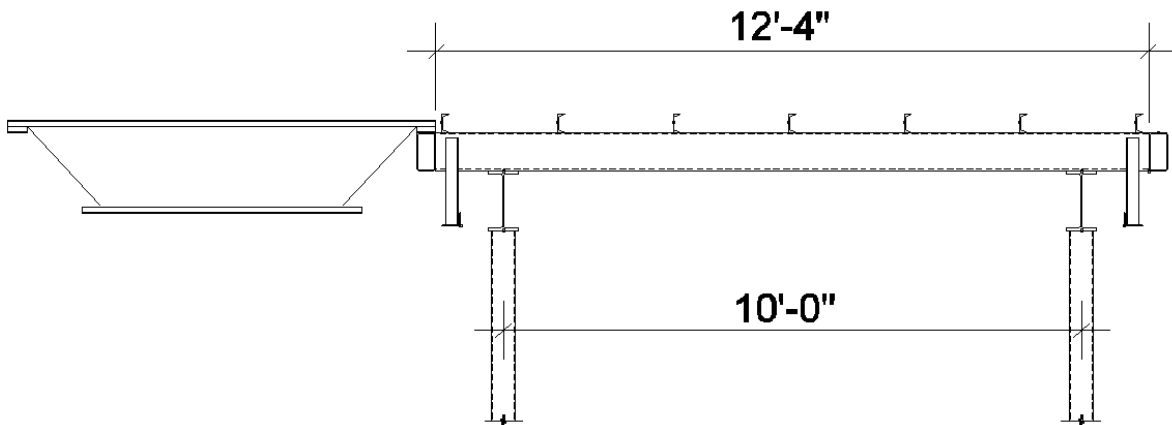

Figure 5-43: Create this steel detail.
- From scratch, use the macros in this section to create the steel detail in Figures 5-43 and 5-44: